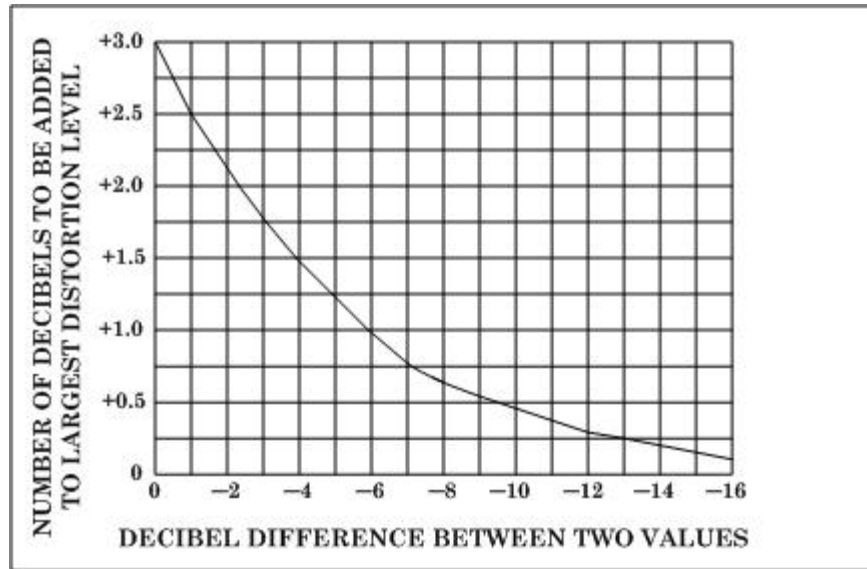

Figure 4. Addition of harmonic components.
- (4) Set spectrum analyzer **CENTER FREQUENCY** to 20 Hz, **FREQUENCY SPAN** to 100 Hz, and **IMPEDANCE** to 1 MΩ.
- (5) Adjust spectrum analyzer to indicate center frequency and record amplitude.
- (6) Press calibration fixture **MODE** pushbutton to **NOTCH** (in).
- (7) On 20 Hz measurements only, press calibration fixture **ATTEN** pushbutton to **-60 dB** (in).
- (8) Adjust spectrum analyzer to indicate second harmonic. Record amplitude.
- (9) Record difference between amplitude recorded in (8) above and amplitude recorded in (5) above. This is second harmonic amplitude.
- (10) Adjust spectrum analyzer to indicate third harmonic. Record amplitude.
- (11) Record difference between amplitude recorded in (10) above and amplitude recorded in (5) above. This is the third harmonic amplitude.
- (12) Calculate total harmonic distortion using figure 4.
If second harmonic in (9) above, is -110 dB and third harmonic in (11) above is -114 dB, dB difference is -4 dB. In figure 4 this intersects the curve at +1.5 level. The total harmonic distortion is the largest harmonic amplitude plus number determined in figure 4, (-110 dB + 1.5 dB = -108.5 dB).
(13) Total harmonic distortion (THD) will be less than -93 dB.
(14) Repeat technique of (3) through (13) above for each setting listed in table 6. THD will be within limits specified.
- (5) Adjust spectrum analyzer range to +10dB, sweep time to 20 Sec, and sweep to **CONT**.
- (6) Adjust spectrum analyzer control knob to peak the marker amplitude and the frequency control for a 1 kHz center frequency. After a few sweeps, press **SINGLE**. Record spectrum analyzer dB indication.
- (7) Set **FUNCTION** switch to **DISTORTION**.
- (8) Adjust **DISTORTION RANGE** control for an upscale reading or until TI reaches -80 dB.
- (9) Add **DISTORTION RANGE** switch setting and spectrum analyzer dB indication of center frequency. Total dB change will be greater than 100 dB below indication recorded in (6) above.
- (10) If fundamental rejection is not >-100 dB, perform **b** below.
- (11) Adjust spectrum analyzer to observe amplitude of second harmonic of center frequency.
- (12) Add **DISTORTION RANGE** switch setting and spectrum analyzer dB indication. Subtract this value from indication recorded in (6) above and record.
- (13) Adjust spectrum analyzer to observe amplitude of third harmonic of center frequency.
- (14) Add **DISTORTION RANGE** switch setting and spectrum analyzer dB indication. Subtract this value from indication recorded in (6) above and record.
- (15) Calculate the induced harmonic distortion using figure 4.
Determine the difference in amplitude of second harmonic in (12) above and third harmonic in (13) above. Add dB number in figure 4 to largest value of harmonic amplitude.
(16) Induced distortion will be <-95 dB.
(17) Repeat technique of (1) through (16) above for fundamental rejection and induced distortion measurements using settings listed in table 7. Fundamental rejection and induced distortion indications will be within limits specified.